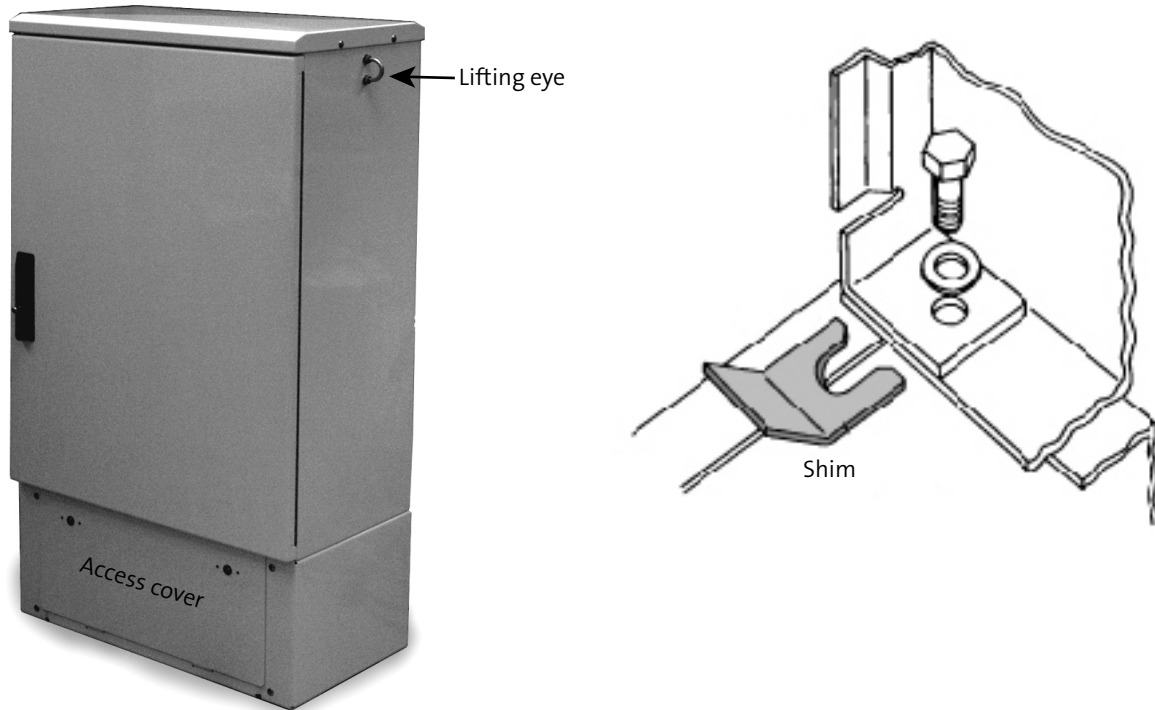

Figure 7
- Step 5:** Attach the unit to the frame using the supplied 1/2-in hardware and shims. Shims may be required between the pad mount frame and the unit to keep the cabinet squared when the bolts are tightened (Figure 7).